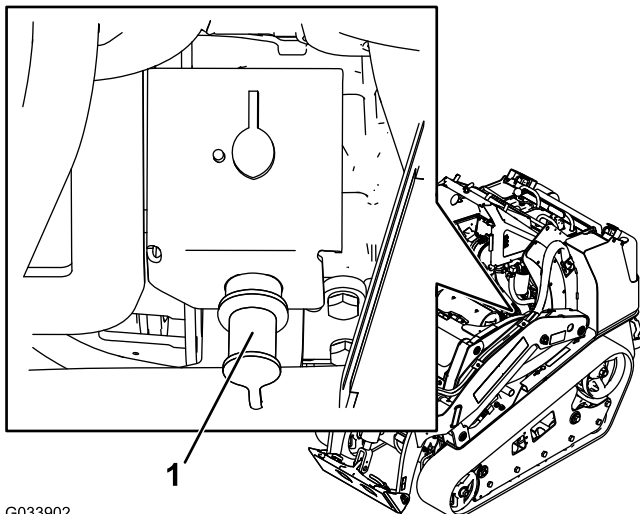

Figure 52
2. Remove the cover from the jump post (Figure 52).
3. Connect an end of the positive (+) jumper cable to the jump post (Figure 52).